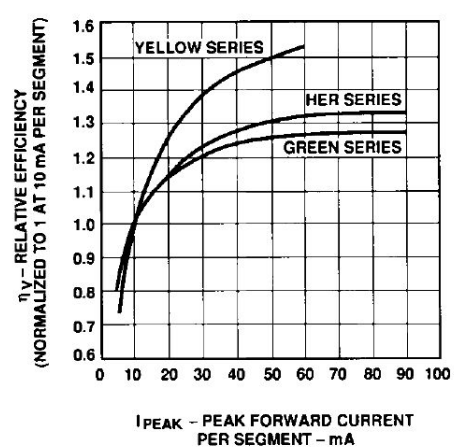

Figure 7. Relative Luminous Efficiency (Luminous Intensity per Unit Current) vs. Peak Current.
5. See Figure 7 to establish pulsed conditions.